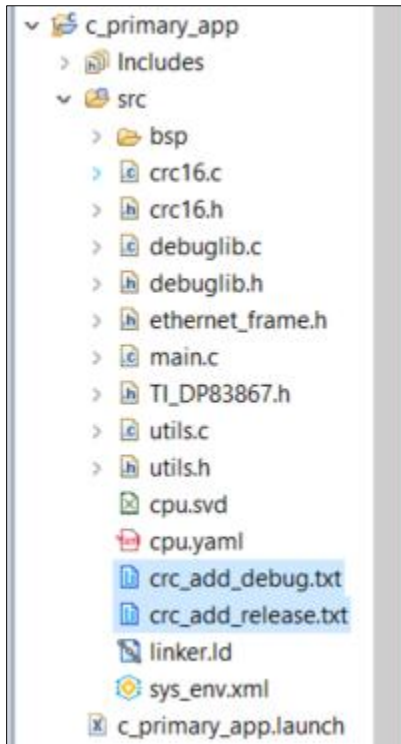

Figure 7.36. Bare-metal Application Software Project Created
2. In the *Select Example Application*, select the **GSRD CNX BM APP** project. Provide the project name as shown in Figure 7.36.
Note: This is a manual step you need to perform. After the application project is created, it includes the `crc_add_debug.txt` and `crc_add_release.txt` as shown in Figure 7.36.